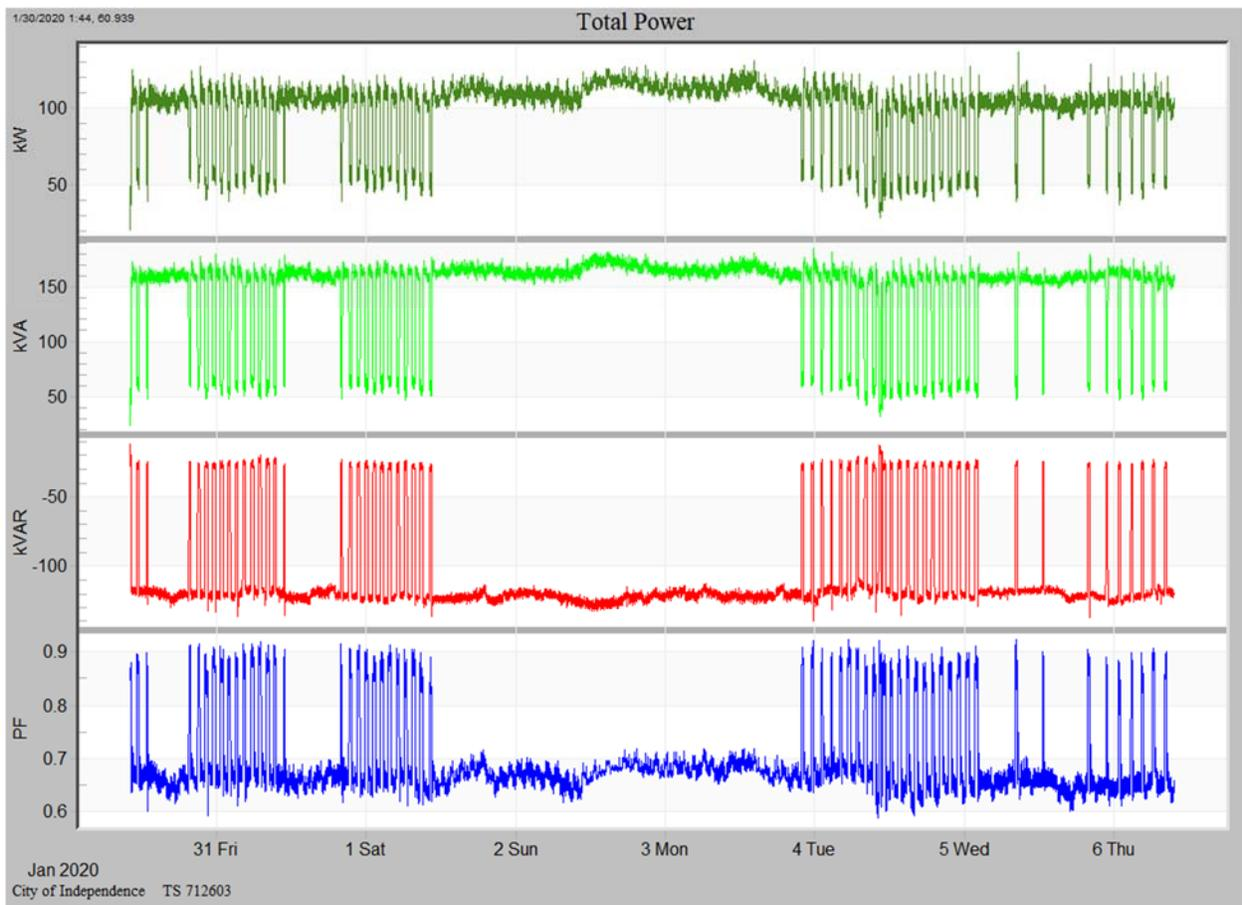

Figure 1: Total Power and Power Factor
Figure 1 is the graph for the total apparent power (KVA), real power (KW), reactive power (KVAR), and Power Factor.